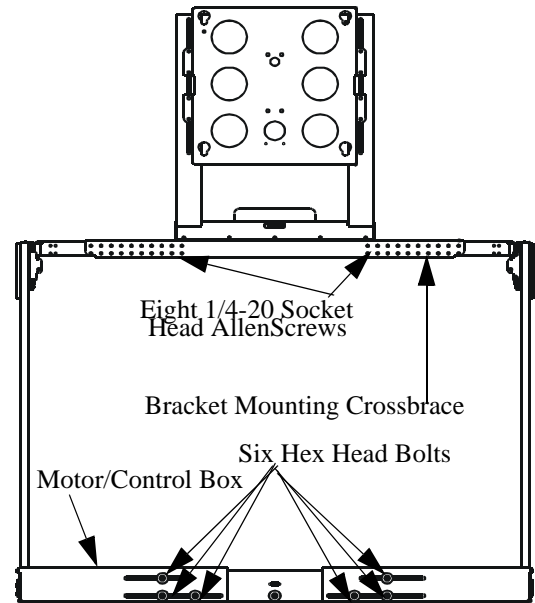

Figure 9. Motor/Control Box
1. Adjust motor/control box unit (see Figure 9).